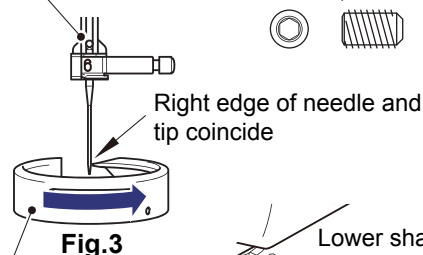

Fig.3
9. Turn the timing pulley by hand to the front, and adjust the right edge of the needle to be coincide with the outer rotary hook point. (Fig.3)
- In case the position of the screw is too right, the needle thread block contacts the needle bar supporter assy and get damaged. (Fig.3)
7. Lower the presser foot lever, and press the **3** button under the "3mm" on the screen. (Fig.3)